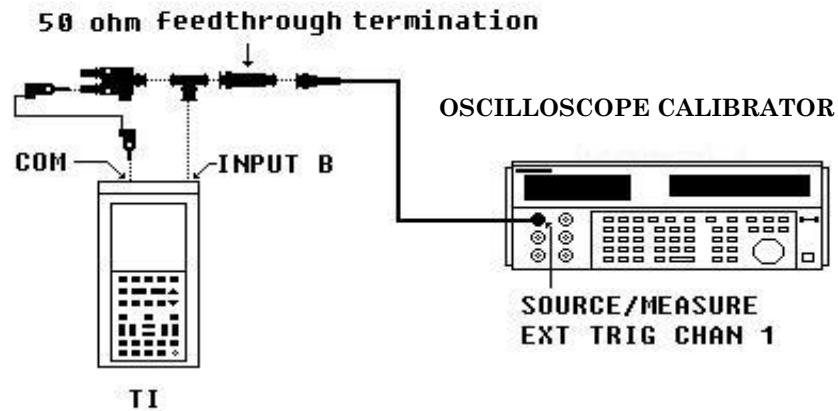

Figure 4. Scope bandwidth input B.
- (5) Set oscilloscope calibrator **LEVSINE** output to produce a 120 mV at 50 kHz and adjusting edit amplitude output dial for 6 vertical divisions on TI.
- (6) Set oscilloscope calibrator frequency output to produce 80 MHz.
- (7) Using oscilloscope calibrator, increase frequency edit dial until frequency drops the amplitude down to 4.2 divisions on TI. If frequency is not greater than or equal to 100 MHz, perform **b** below.
- (8) Set oscilloscope calibrator to standby.
- (9) Connect equipment as shown in figure 4 below: